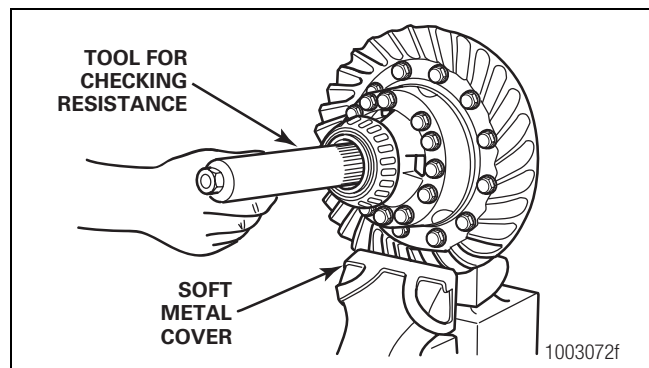

Figure 5.47
2. Place the differential and ring gear assembly in a vise. Install soft metal covers over the vise jaws to protect the ring gear. Figure 5.47.
3. Install the tool into the differential until the splines of the tool are engaged with one side gear. Figure 5.47.